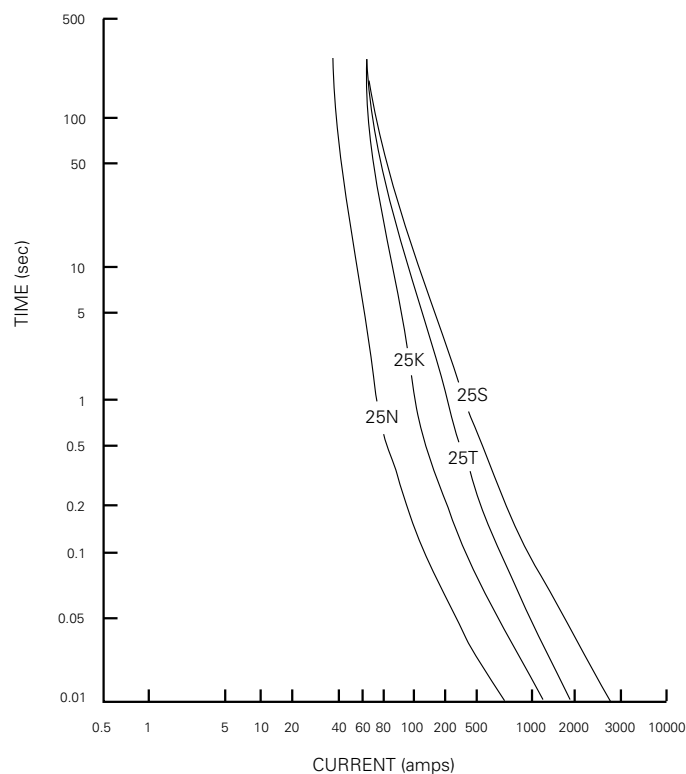

Figure 35. Edison link speed comparisons
① **Figure 35** compares the speed ratio of Type K, Type N, Type T, and Type S Edison links.